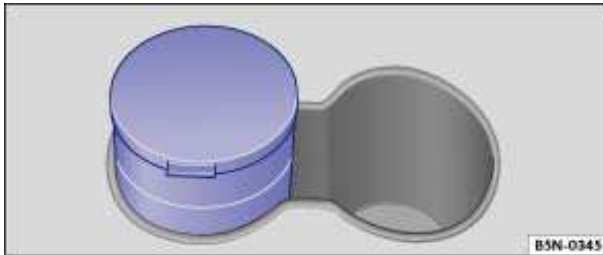

Fig. 129 In the cup holder in the front center console: Ashtray.
- To *open*, raise ashtray lid ⇒ fig. 129.